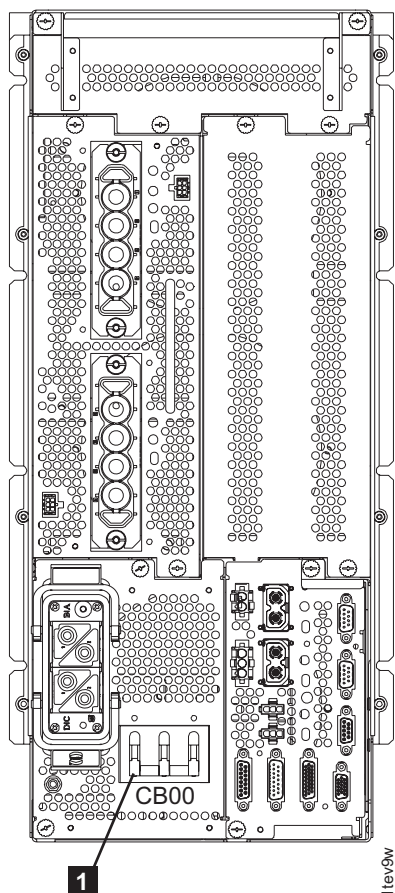

Figure 31. Rear view of PPS showing CB00
3. Verify the MAIN LINE circuit breaker **1** (CB00) on the rear of each primary power supply is set to Off (down). Refer to Figure 31.